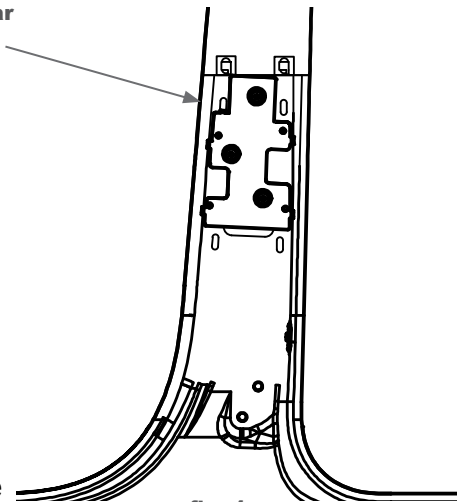

fig. 1
- A. Locate and remove the lower part of the b-pillar trim to access the sheet metal body. After the trim is removed put the 3PK5715-01D & 3PK5715-01P b-pillar brackets in location and mark the 4 holes to drill a pilot (with 3/16" drill bit) for the self tapping screws (3X162). The b-pillar bracket is located when the tab is all the way down on the slot as shown in fig. 1. Secure the b-pillar brackets to the driver & passenger sides of the vehicle with the self-tapping screws.